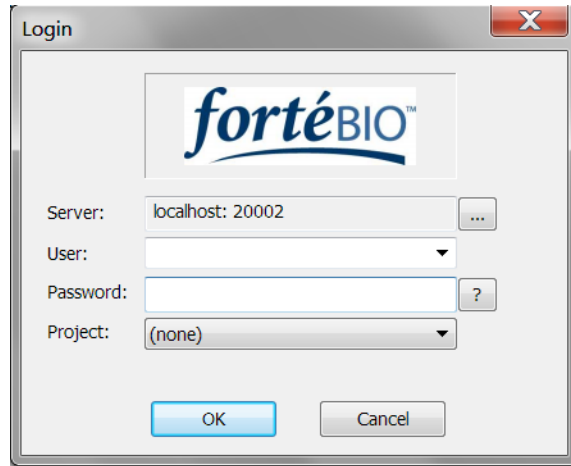

Figure B-21: Login Dialog Box with Server Parameter Configured
4. Select **Administrator** from the **User** drop-down list (Figure B-21).